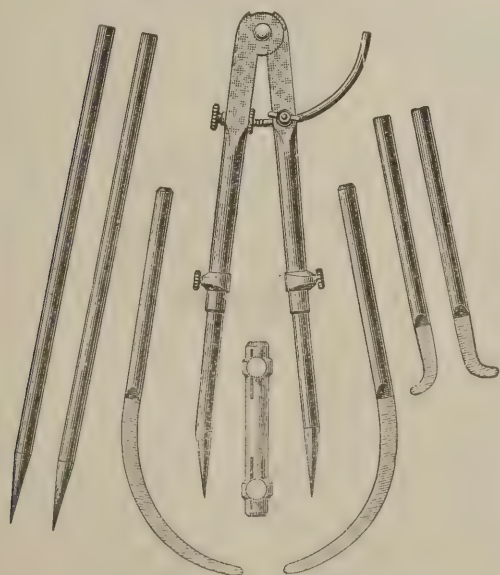

Fig. 2.—Starrett's Combination Dividers.
L. S. Starrett, of Athol, Mass., is introducing a combination dividers for woodworkers. It is illustrated in Fig. 2 of the engravings. The cut shows the article complete, with the different attachments that are provided to go with it. The article may be used in the form of dividers, with either short or long extension points, and either with or without a pencil. It is also capable of being used as an outside calipers or inside calipers, and also in the form of hermaphrodite calipers. Articles of this kind have been before the public for a long time past, but this instrument, we are informed, possesses features peculiarly its own. The head and socket legs of the tool, we learn, are made from drawn bronze metal, and accordingly are hard, tough and strong. They are, in addition, finely finished. The joint is large and firm, and the quadrant is round and is fastened by an improved method. The steel points are thoroughly tempered. On the threaded end of the quadrant, between the adjustable legs, is a knurled nut, against the inside of which a helical spring acts. After